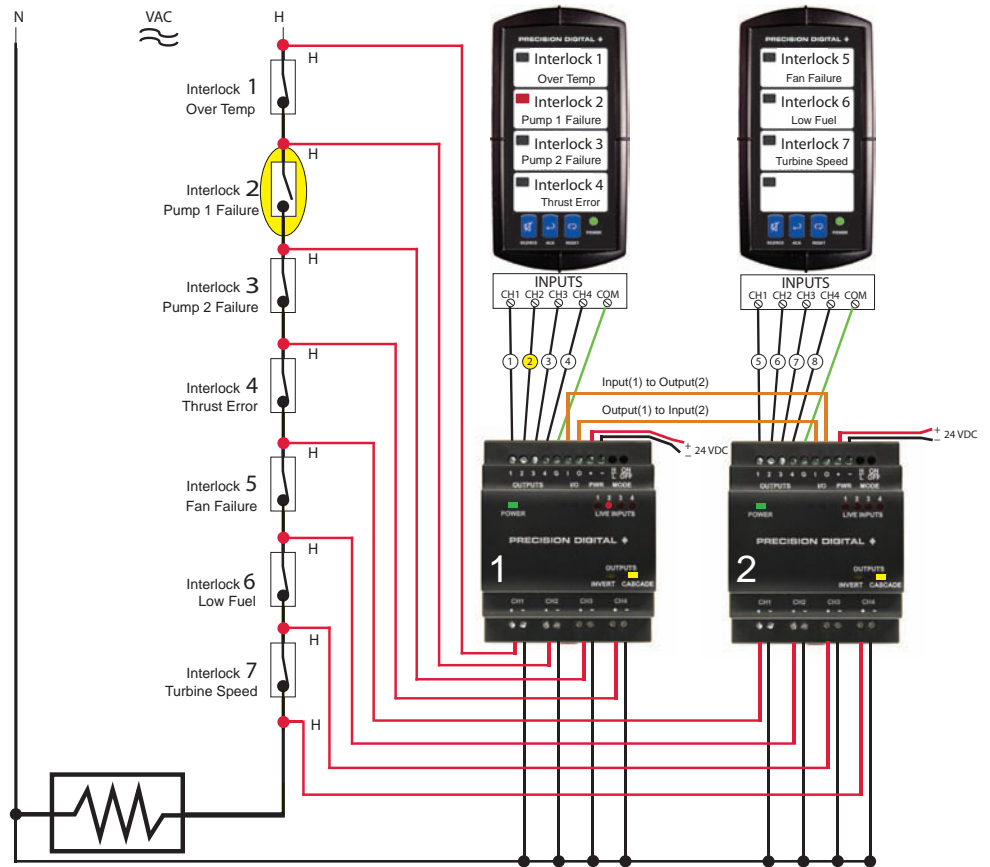

Figure 6.
To connect multiple units in Cascade Mode, connect terminal O on the first converter to the I terminal of the second. Continue to connect converters in this way until the last converter's O terminal is connected to the first converters I terminal, as seen in **Figure 6**.
Cascade Mode is a special operation mode used for the monitoring of high voltage interlocks where one failure causes a failure of all monitoring points further down in the system. Examples of this include the many interlocks on boiler systems, where a single failure can cause a cascade of failures later in the system. Cascade Mode will indicate the single point of failure in these series systems, as seen in **Figure 6**.
Cascade Mode logic may be combined across multiple Logic Level Converters to monitor more than 3 alarm outputs (or 4 inputs). When wired together, output four (4) of a Logic Level Converter will monitor input CH4 and CH1 of the next Logic Level Converter wired in series with it. Multiple unit Cascade Mode may be used across an unlimited number of units. See **Figure 6**.